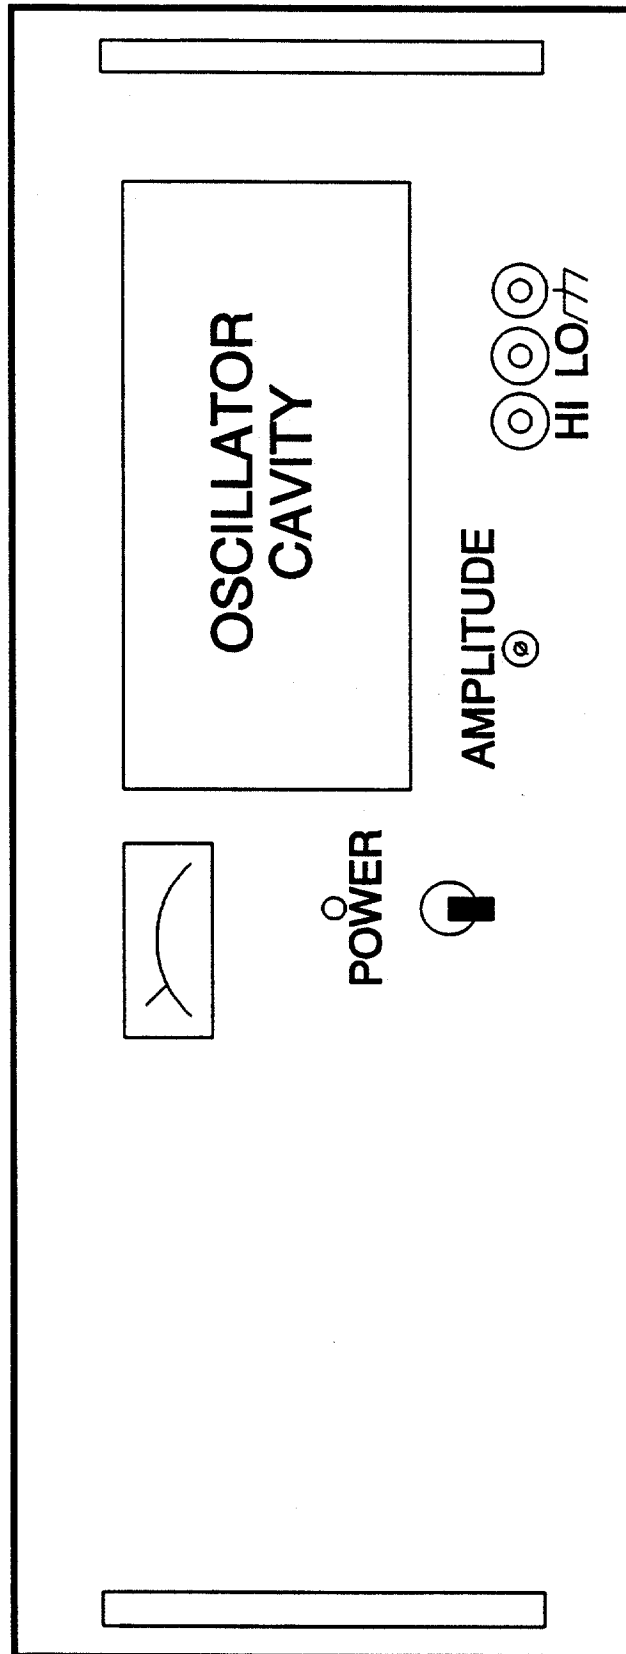

Figure 2-9. Model 351SL/501SL (Front View)
1. Before installing the power source, verify that the input and output voltage ranges are compatible with the available utility power and the output voltage application. Refer to Figures 2-9 and 2-10, Table 2-1, and the unit serial number tag for model number information.
Refer to Figure 2-9 for an illustration of the Model 351SL/501SL front panel.